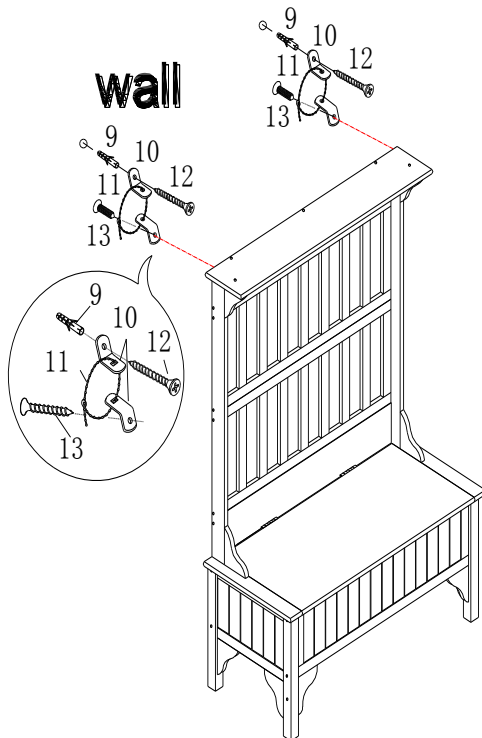

Figure 12
Move assembled Hall Tree close to wall Brackets (10) and tie corresponding Brackets (10) together with Plastic Straps (11) as shown in Figure 12.